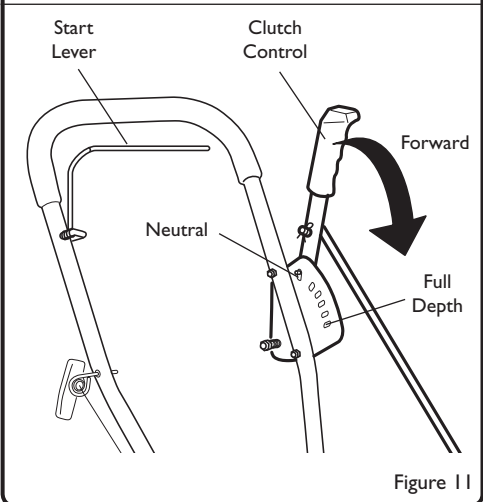

Figure 11
1. To engage the cutting blade, move the clutch lever forward. (See Figure 11)
THE ENGINE WILL NOT START IF THE START LEVER IS NOT PULLED AGAINST THE HANDLE (FIGURE 11).